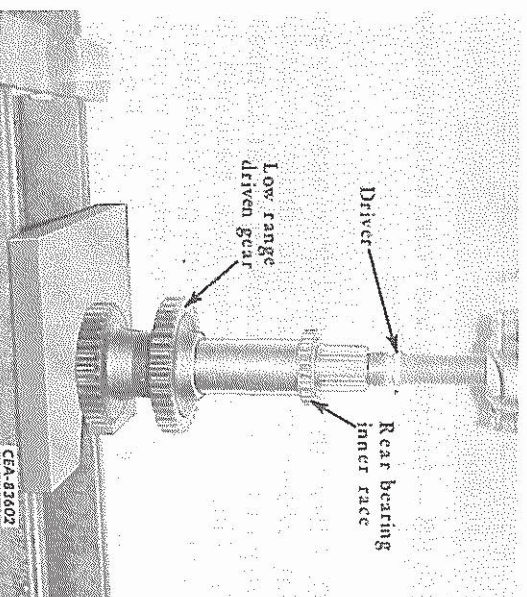

FIG. 73 — Installing the High Range Driven Gear
34. Install the remaining gear key. Position the high range driven gear in the press so the long taper of the gear hub is up. Place the shaft in the gear aligning the key and keyway and press the shaft into the gear until the low range gear bottoms on the high range gear (Fig. 73).